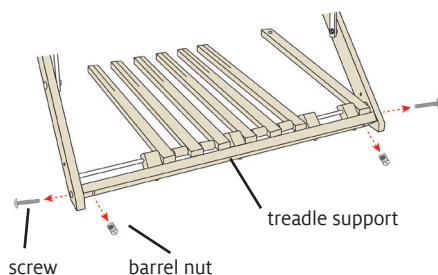

FIGURE 5: REMOVE THE TREADLE ASSEMBLY
9. Remove the treadle assembly from the inside legs by unscrewing the screws from the barrel nuts, as shown in Figure 5. Spread the inside legs apart and remove the treadle support. Set aside the barrel nuts for step 16.